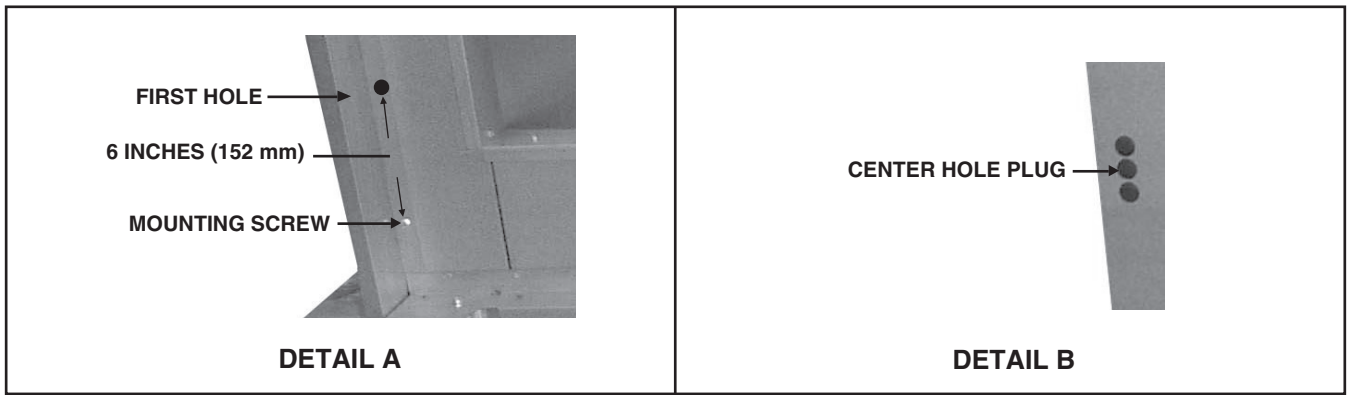

Figure 4. Discharge Damper Wiring Connections
- (1) Out through hole in discharge plenum leg, into cooling coil cabinet, and through blockoff plate across cabinet.
- (2) Out through hole in cooling coil cabinet leg and into furnace section.
6. If downturn plenum is equipped with discharge dampers, field wiring, including drilling holes and running wires, is required. Connect wires in accordance with **Figure 4**.